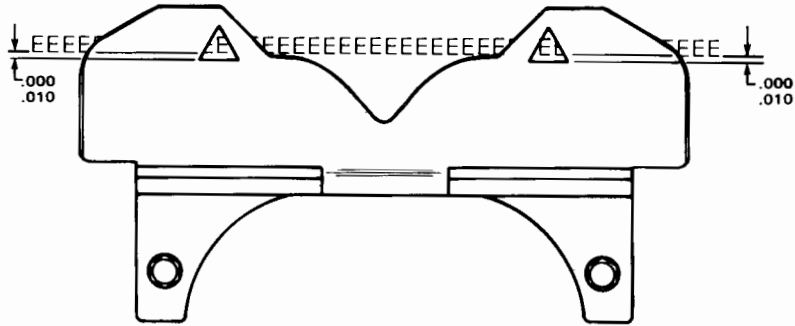

Figure 14.
**H. CARD GUIDE HEIGHT** (Refer to figure 14)